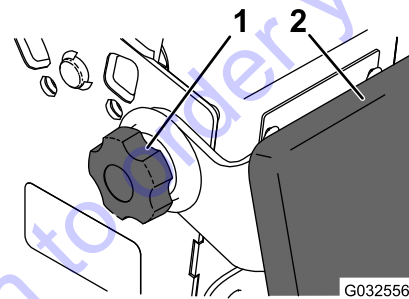

Figure 18
2. Loosen the twist knobs on each side of the machine (Figure 18).